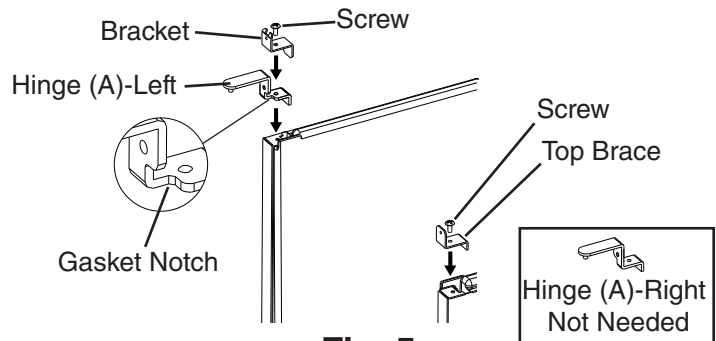

Fig. 5
- c) Remove hinge (A)-right and the bracket from the right side of the appliance. Set aside hinge (A)-right; it is not needed. Remove the top brace from the left side. Fasten hinge (A)-left and the bracket to the left side and the top brace to the right side. See Fig. 5.